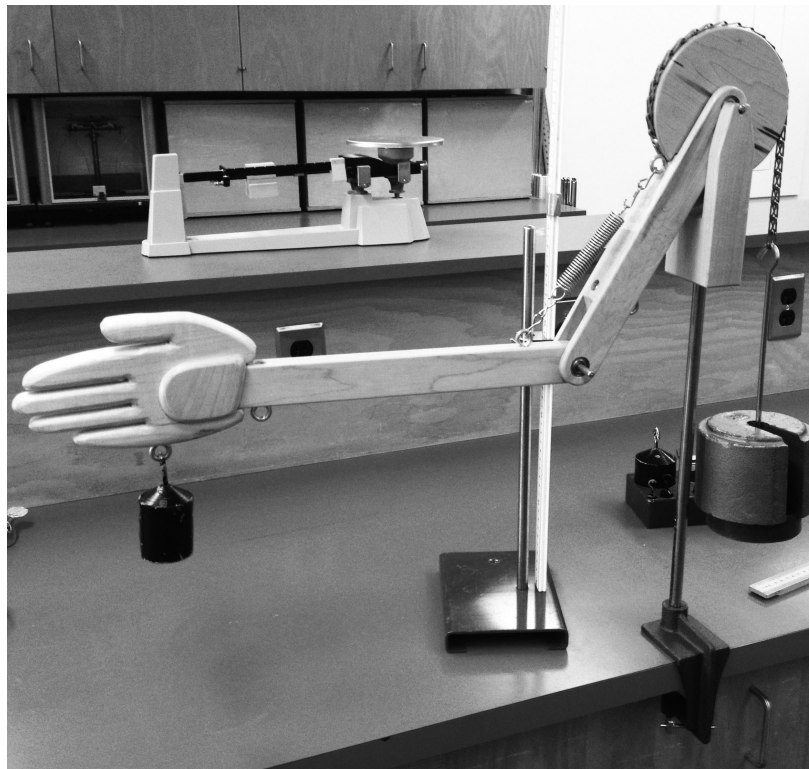

Figure 3: The Arm model
1. Set up the arm as directed (see Figure 3), **MAKING SURE** the hand ‘points’ to the **LEFT**.